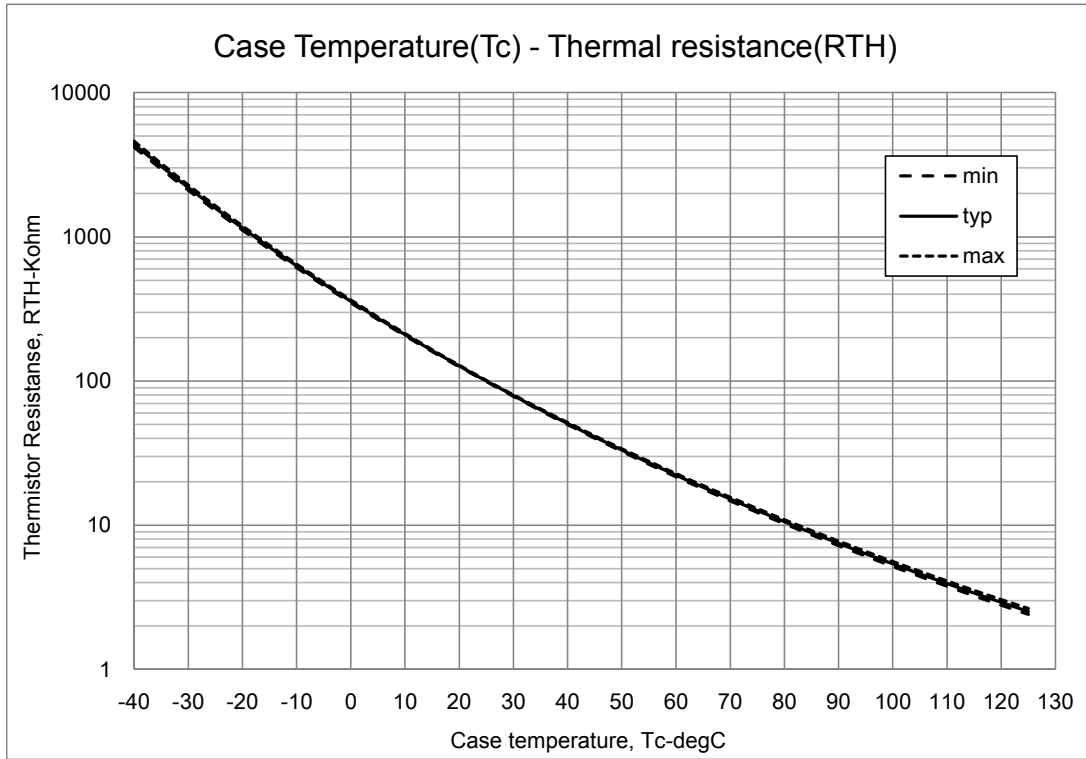
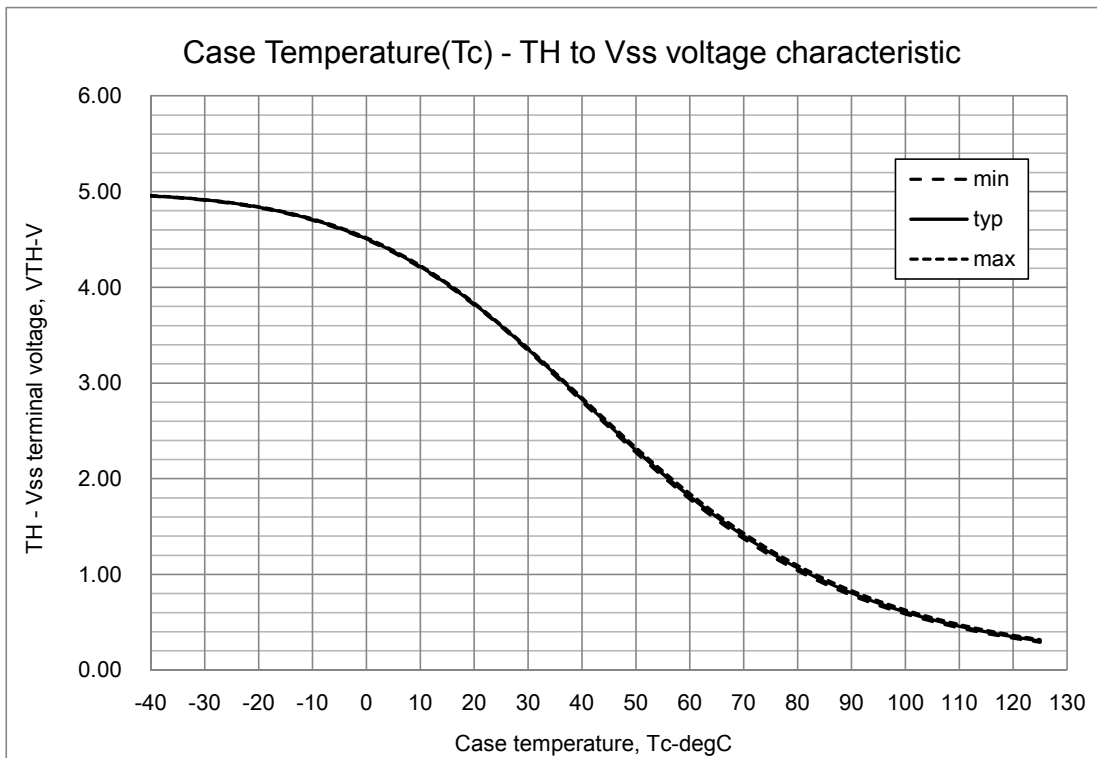

Fig.10 Variation of thermistor resistance with temperature
Fig.11 Variation of thermistor terminal voltage with temperature (39 kΩ pull-up resistor, 5 V)
5. Inside the IPM, a thermistor used as the temperature monitor for internal substrate is connected between V_{SS} terminal and TH terminal therefore, an external pull up resistor connected between the TH terminal and an external power supply should be used. The temperature monitor example application is as follows, please refer the Fig.10, and Fig.11 below.